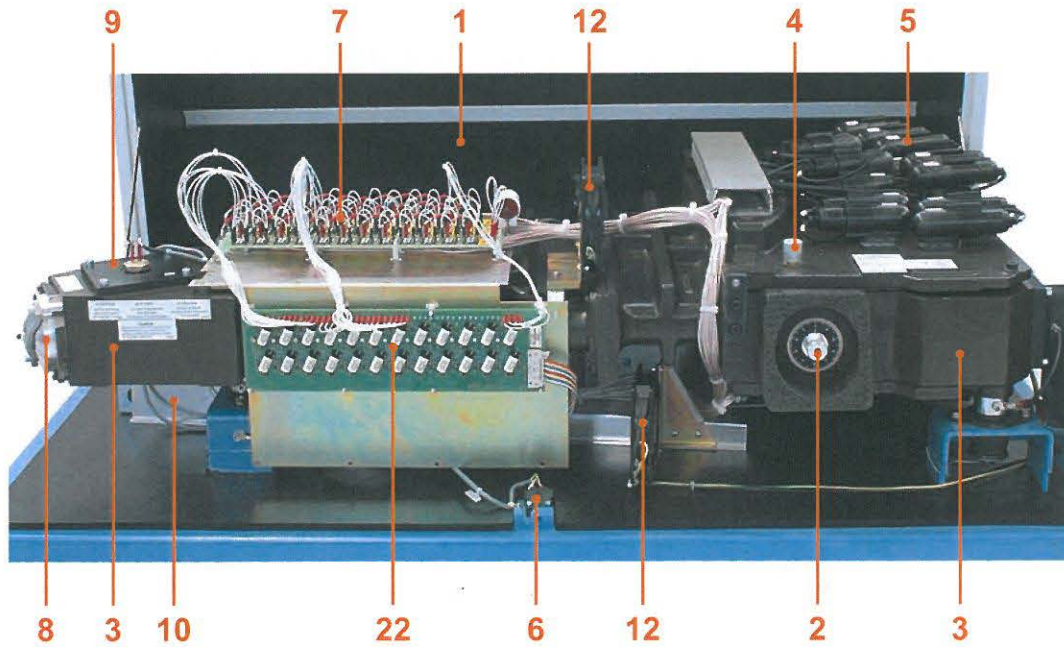
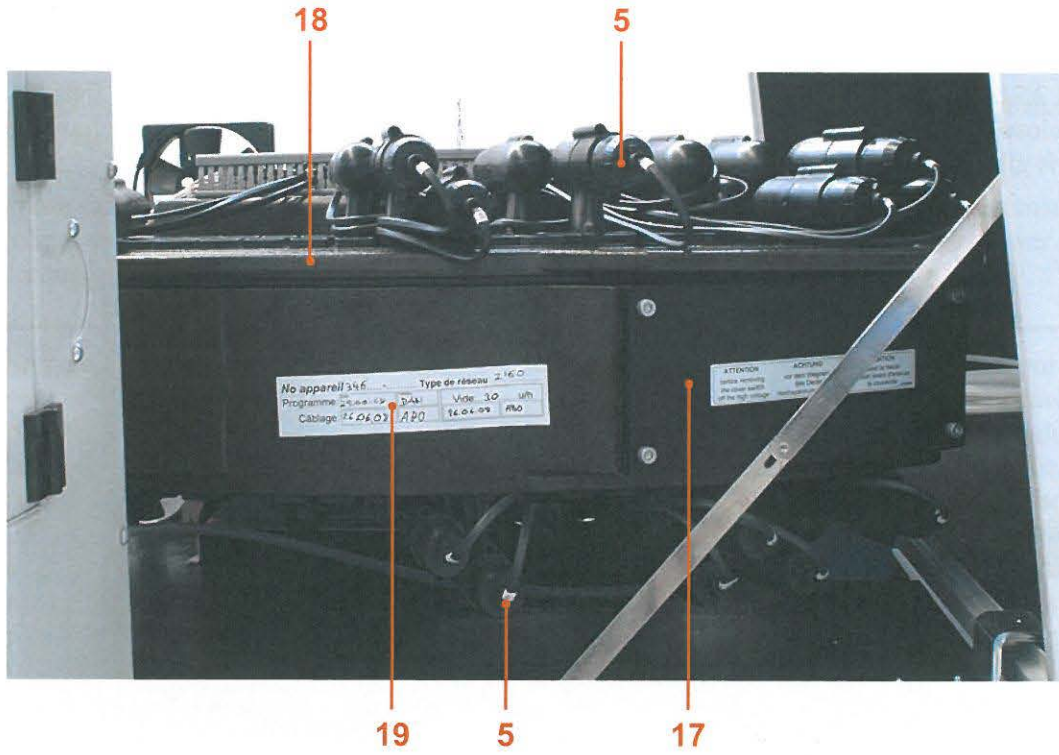

Figure 2.21
Figure 2.23
The figures 2.21 and 2.22 show two general views of the oven and the spectrometer. The figures 2.23 and 2.24 show close-ups that will help you to locate some objects in greater details. For these four figures, the description is grouped just after them.
Key to figures 2.21, 2.22, 2.23 and 2.24:
U : *Indicates several mechanical characteristics of the spectrometer's body (figure 2.21, pos. 3).*